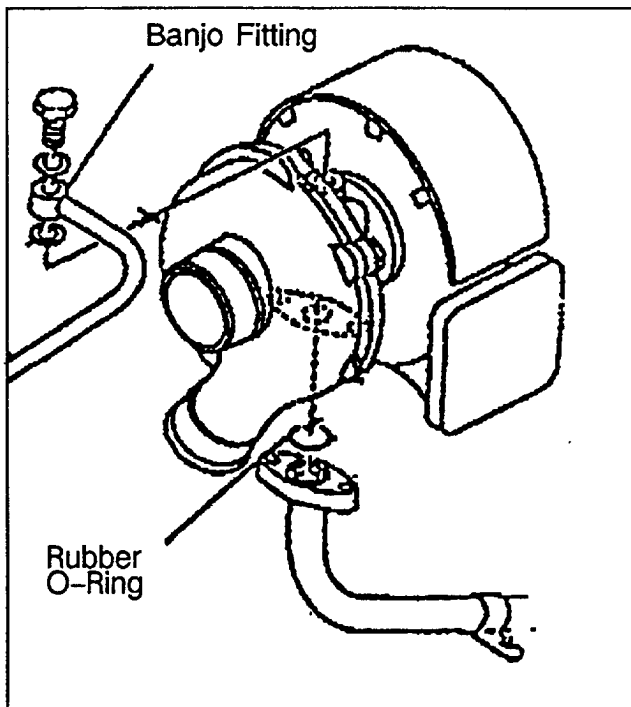

Figure 1.
- a. Remove banjo fitting at lube oil inlet pipe on the top of turbocharger. (Discard gaskets of banjo fitting). See Figure 1.